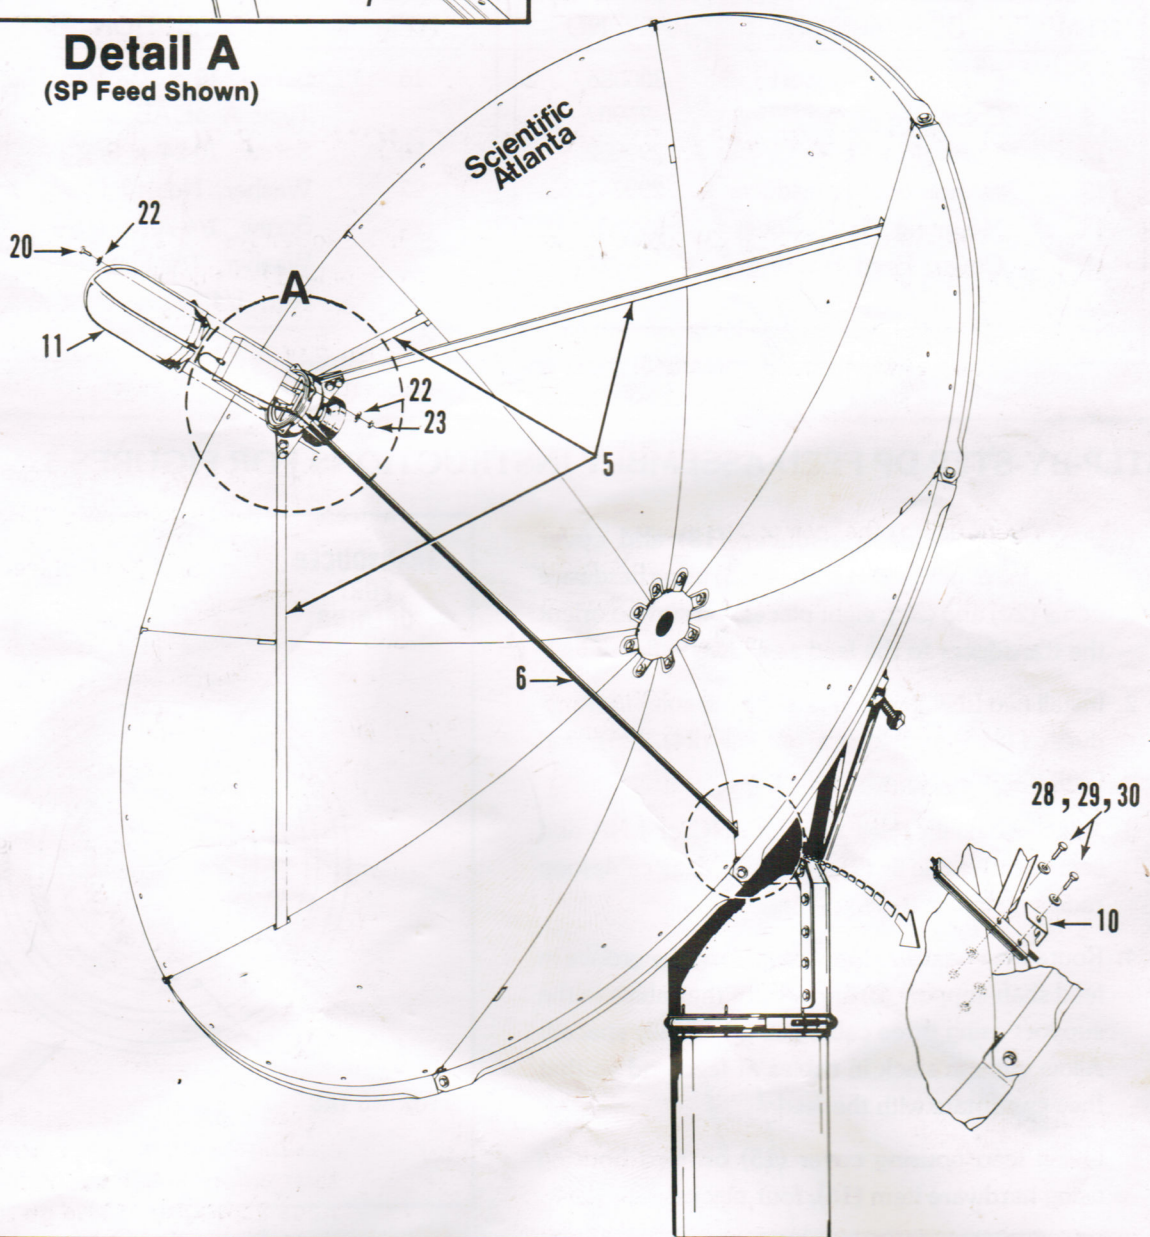

Figure 4. Installation of Feed, Feed Shaft Support, and Cover
5. Manually rotate feed horn **(4 or 12)** within housing to ensure smooth operation with no binding. Set this assembly aside until called for in figure 4 instructions.
7. Insert one end of the coaxial cable **(32)** through the slot in the reflector panel at the lower portion of the dish where feed shaft support **(6)** will be installed. This cable will be routed and connected to the LNA/LNC later in figure 4 instructions.
PARTS LIST FOR FIGURE 4
STEP-BY-STEP ASSEMBLY INSTRUCTIONS FOR FIGURE 4.
3. Insert bottom end of feed shaft support (6) through slot in reflector panel at lower right quadrant of dish, as indicated in figure 4. The coaxial cable should be on the open or grooved side of the feed shaft support.